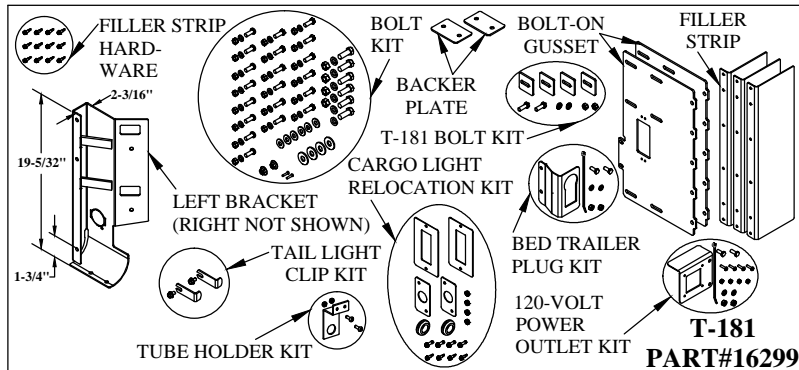

Figure 1: Part Identification.
2. **Verify** mounting bracket kit (Figure 1 and Table 1).